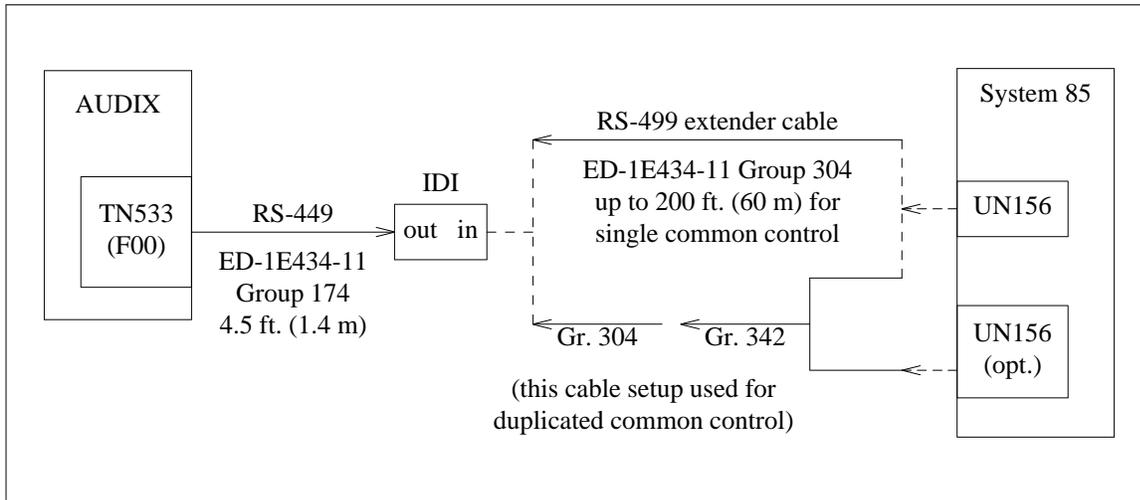

Figure 2: System 85 Data Link (Using IDI) to AUDIX
- Data link connecting an AUDIX to the switch (required for all fully integrated systems). The link varies depending on the AUDIX model used. See figures 2, 3, and 4 for common System 85 setups.
IDI. The Isolating Data Interface (IDI) is the recommended setup for local AUDIX connections that are less than 400 ft (122 m) from the switch (see figure 2). The baud rate should be set through the DCIU to 9600 bps (the IDI has no option settings).